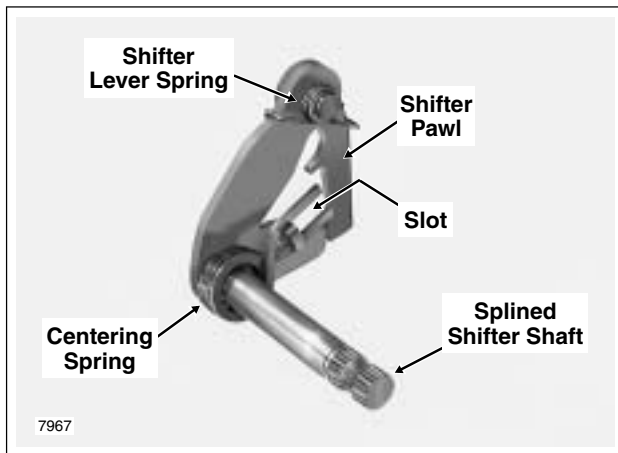

Figure 7-43. Shifter Pawl Assembly
- Using a T50 TORX drive head, turn the centering screw out until it clears the centering spring slot of the shifter pawl assembly. Remove the retaining ring and flat washer from the splined end of the shifter shaft. See Figure 7-43. Push on end of shaft to free shifter pawl assembly from transmission case.